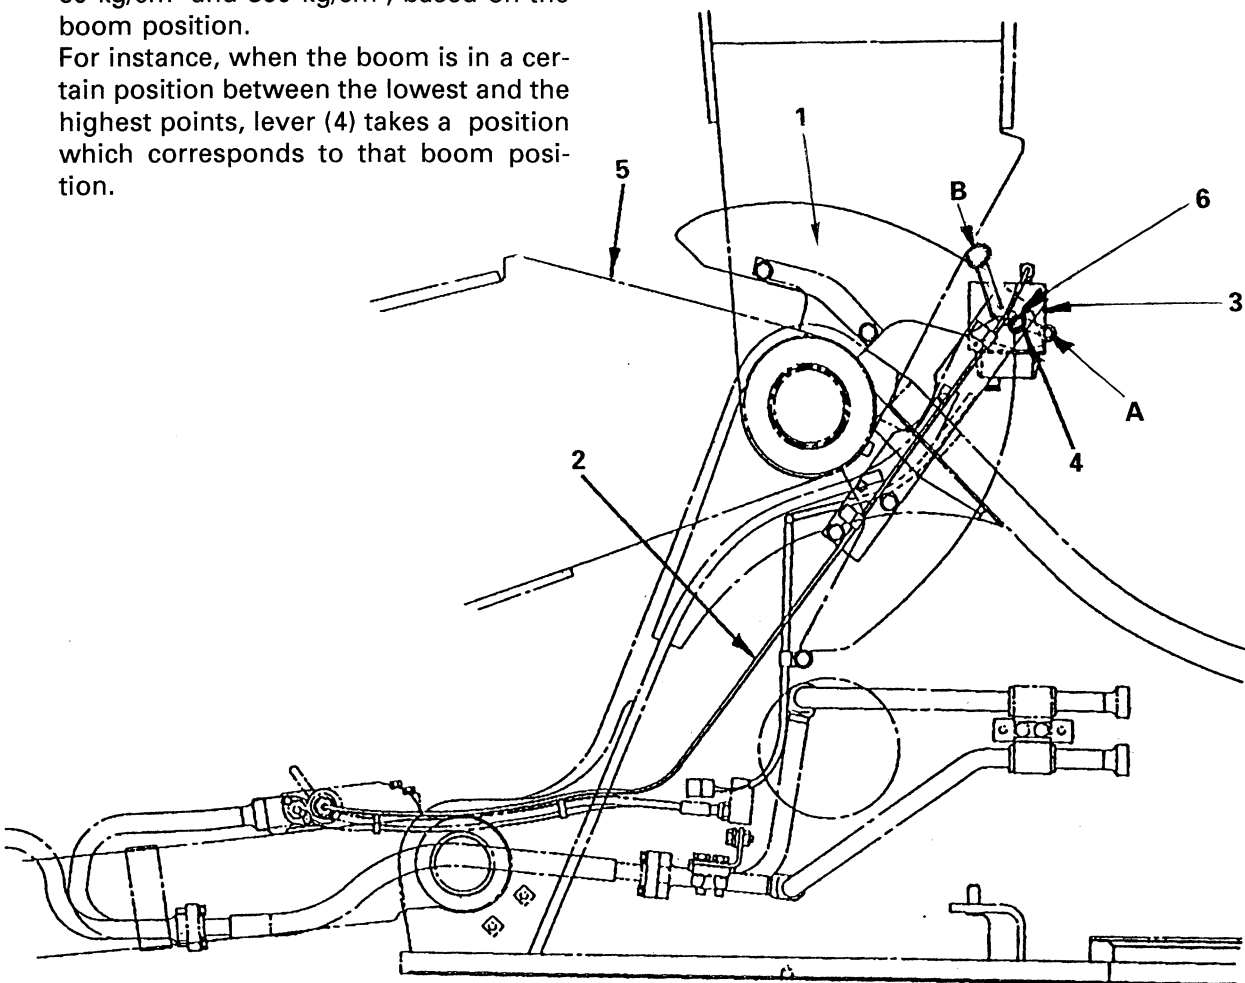

FIG.1
- Hose (2) directs the oil pressure from the bottom side of the boom cylinders to pressure switch (3).
- When boom (5) is in the lowest position, lever (4) takes position **A** in Fig. 1 and the pressure to activate its switch (closed and open) becomes 60 kg/cm².
- When the boom is in the highest position, lever (4) takes position **B** in Fig. 1 and the pressure to activate the switch becomes 360 kg/cm².
- When the boom is in a position anywhere between the lowest and the highest points, the operating pressure of switch (3) will be somewhere between 60 kg/cm² and 360 kg/cm², based on the boom position.